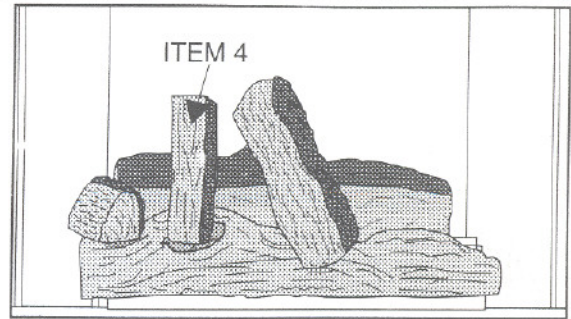

Figure 47
6. See Figure 47. A second small straight log (Item 4) is installed next. Position this log with the "bark" to the right. This log is placed vertically against the Back Log. Its position is between the two top logs with the bottom end resting on the top edge of the Burner Pan Assembly. Make sure the log does not block any of the burner ports.